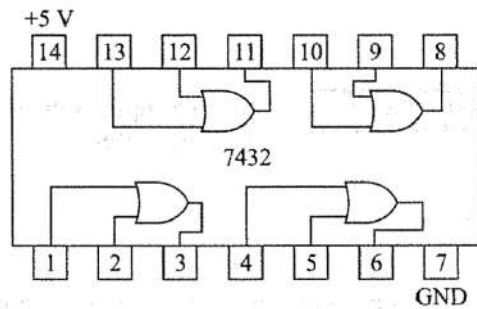

Fig. 2.7 Pinout diagram of a 7432
- **TTL OR Gates** Figure 2.7 shows the pinout diagram of a 7432, a TTL quad 2-input OR gate. This digital IC contains four 2-input OR gates inside a 14-pin DIP. After connecting a supply voltage of +5 V to pin 14 to and a ground pin 7, you can connect one or more of the OR gates to other TTL devices